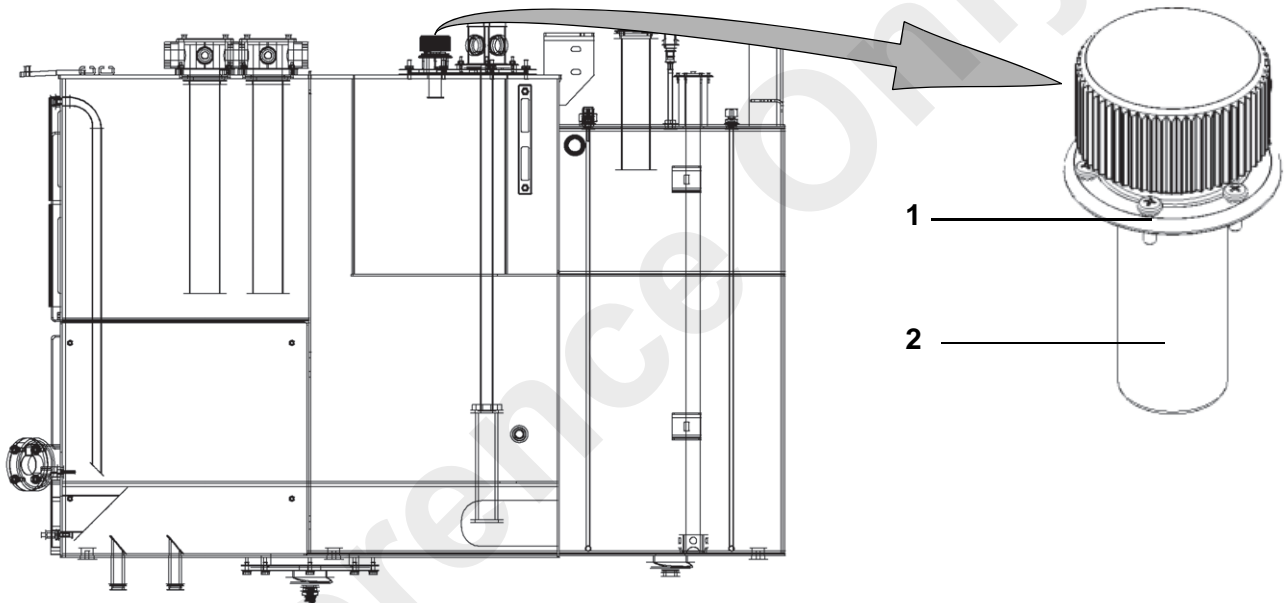

Fig. 20 Position of the aeration filter
1	Unscrew the bolts (1) in Fig. 20 of the aeration filter.
2	Pull out the aeration filter (2) in Fig. 20 and dispose of it as hazardous waste.
3	Insert a new aeration filter (2) in Fig. 20.
4	Screw on the bolts (1) in Fig. 20.